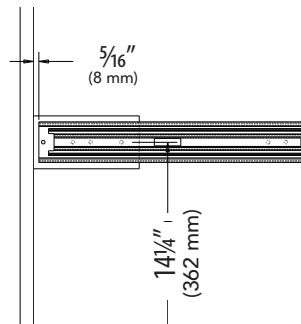
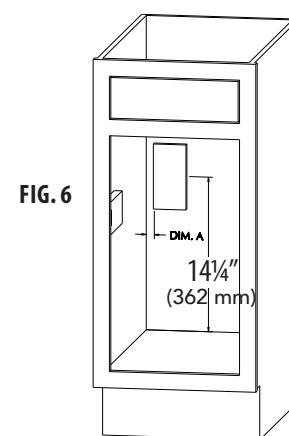

FIG. 7
FIG. 6
7. If rear cabinet wall is thinner than 1/2", install a 1/2" x 3" x 6" wide furring strip to the back of cabinet centered 14 1/4" from cabinet floor and "Dim. A" away from the side cabinet wall (see fig. 6).
8. Install front of slide on this mark with the center of the slide at 14 1/4" from cabinet floor (see fig. 6) using any of the front holes and provided #8 x 5/8" screw (both sides) (see fig. 7).